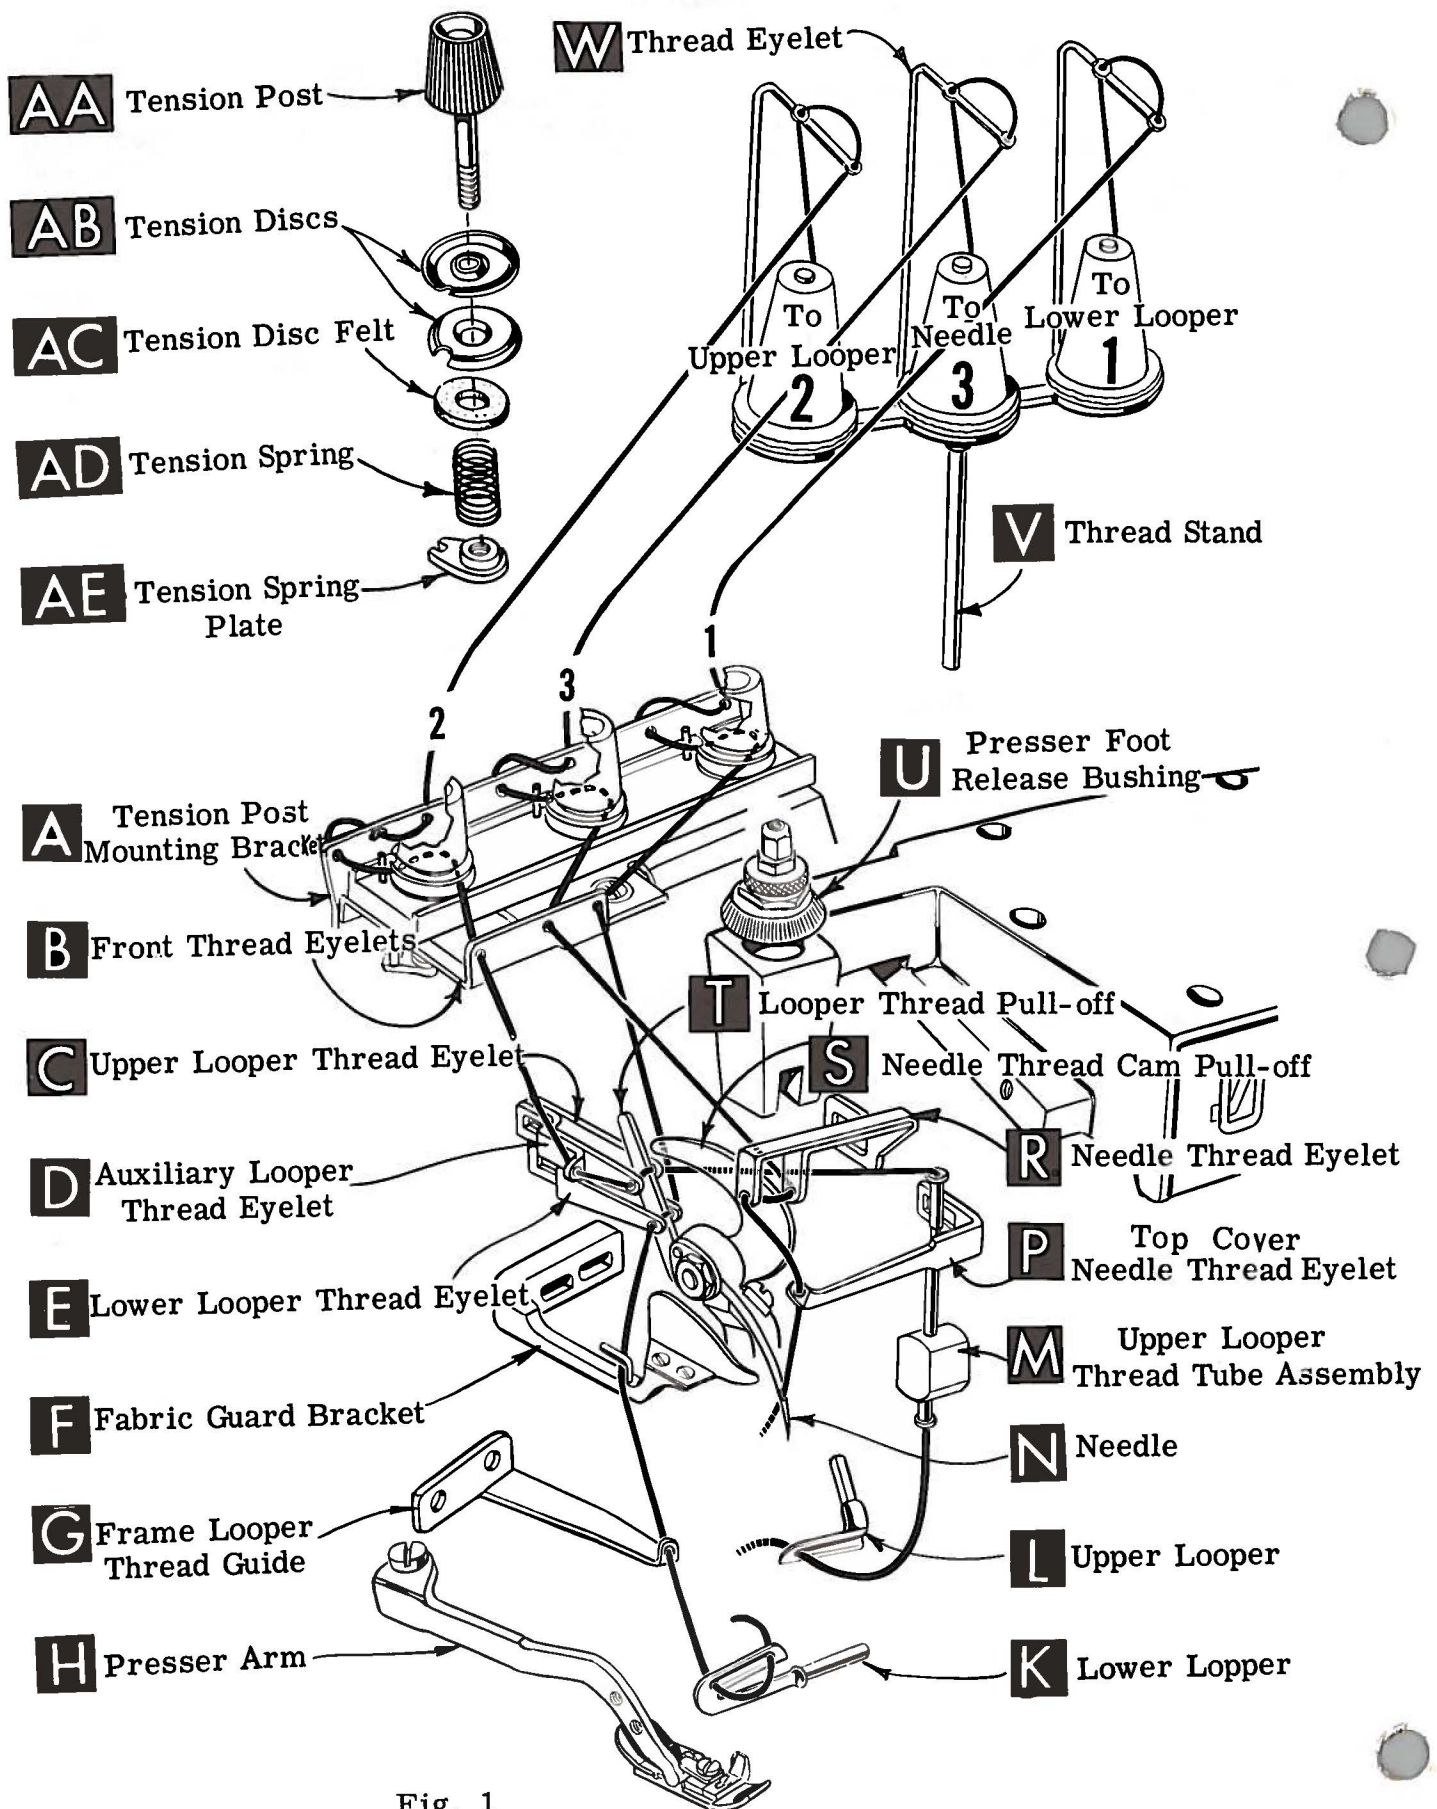
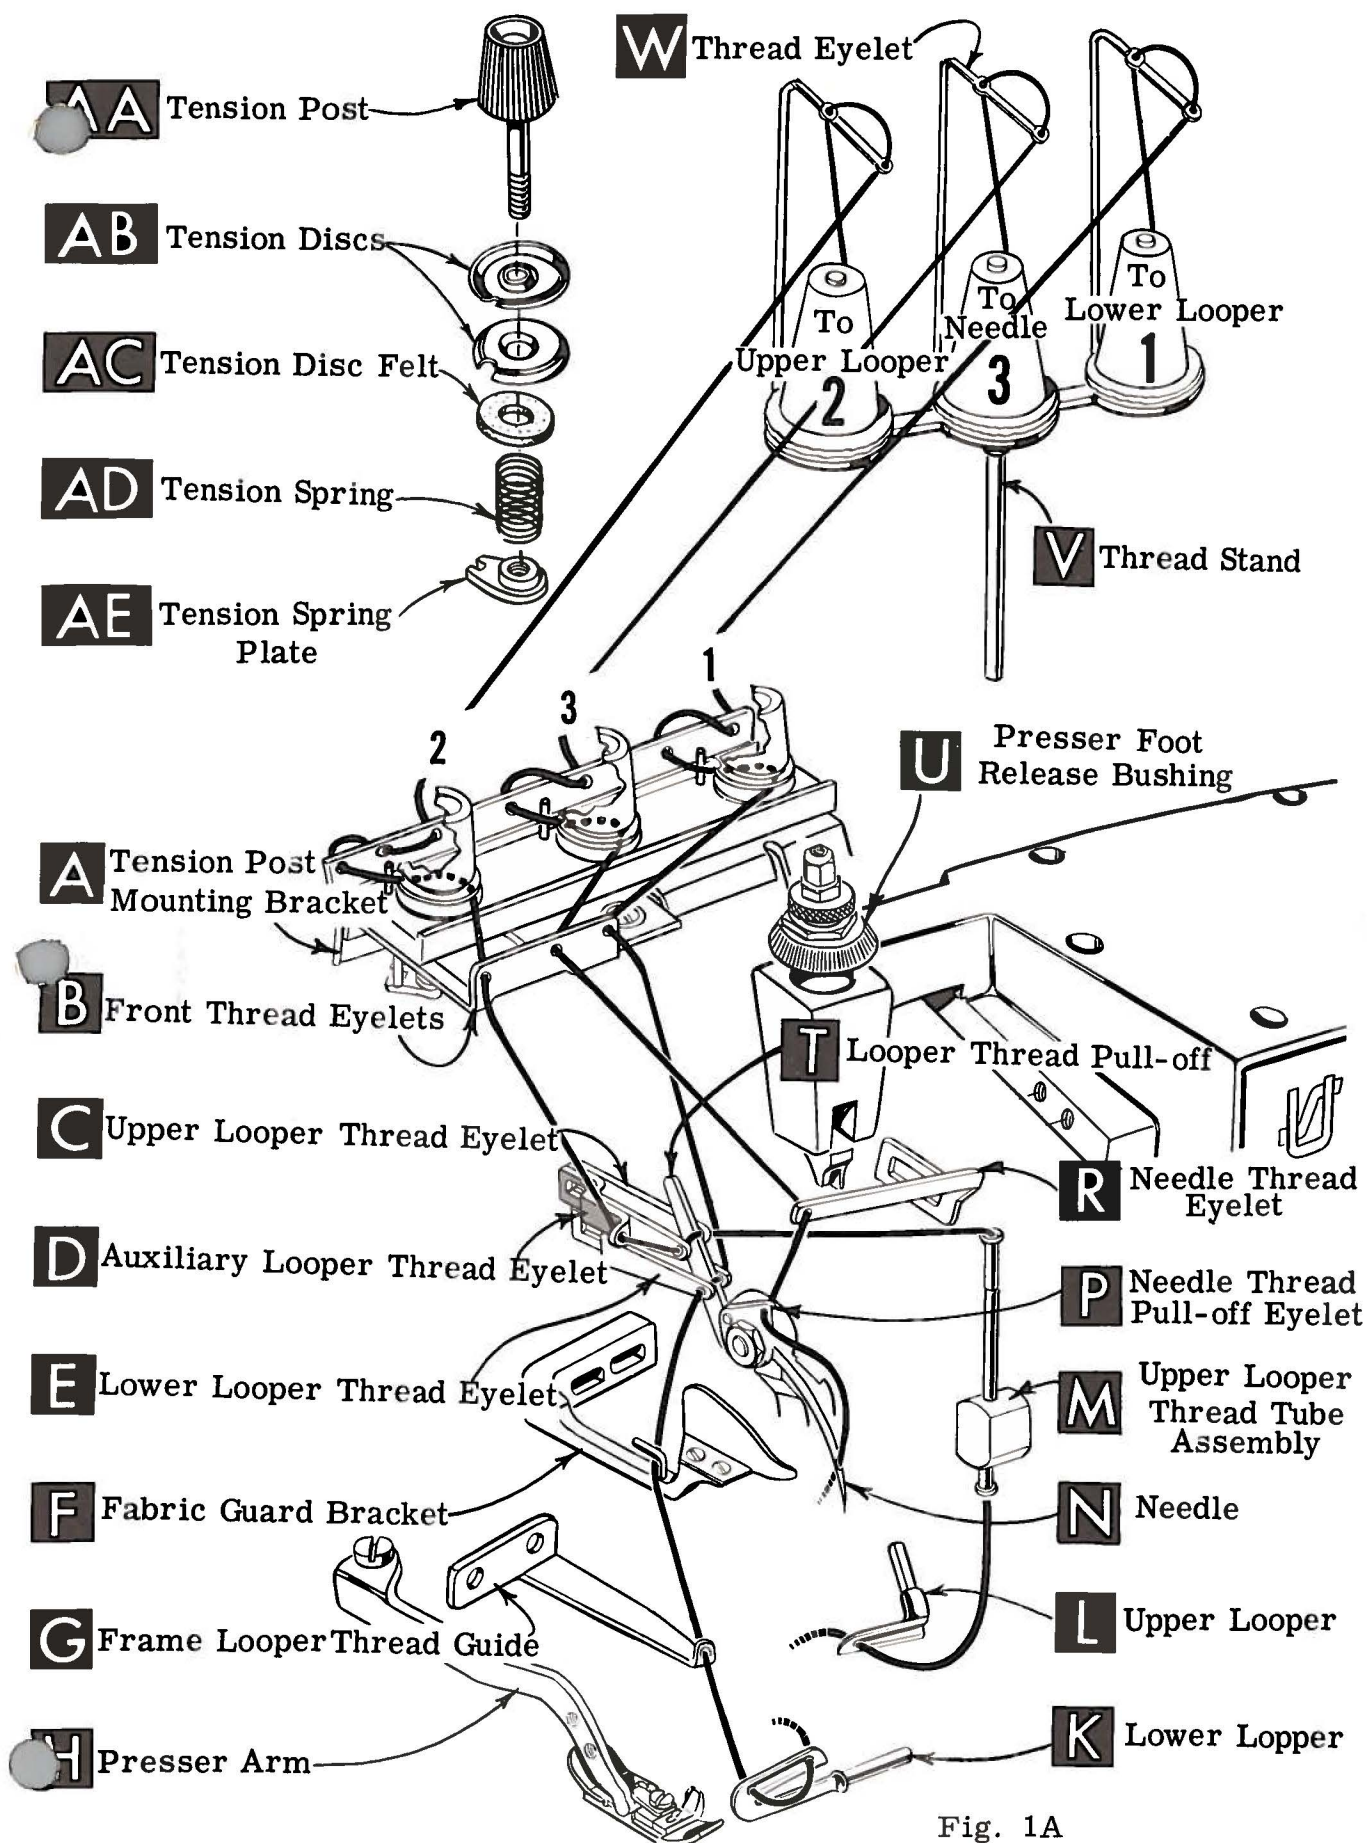

Fig. 1
Fig. 1A
Release pressure on presser foot by turning presser foot release bushing (T, Fig. 1 and 1A) and swing presser arm (G) out of position. Turn handwheel in operating direction until needle is at its lowest point of travel. Using hexagonal socket wrench No. 21388 AU, furnished with machine, loosen needle clamp nut about 1/4 turn. Again turn handwheel until needle is at high position; withdraw needle.
After thread comes from cone on thread stand (V, Fig. 1 and 1A), it is brought up through back thread eyelet, then down through front thread eyelet (W). Next it is threaded through each pair of holes in tension post mounting bracket (A), down through right hand hole (from back to front) and over mounting bracket through left hand hole (from back to front). Then thread continues between tension discs (AB), and on through front thread eyelets (B).
Only parts involved in threading are shown in threading diagram (Fig. 1 and 1A). Parts placed in their relative positions for clarity.
The threading of the upper and lower loopers are the same for both Fig. 1 and Fig. 1A, the only difference will be in threading the needle, which will be explained under paragraph "To Thread The Needle".
Thread lower looper thread through the right front thread eyelet (B) on the tension post mounting bracket (A). Then double end of thread and lead it through both eyes of lower looper thread eyelet (E, Fig. 1) from right to left. NOTE: Thread must pass in front of looper thread pull-off (T). Lead thread behind fabric guard bracket (F) and through hole of frame looper thread guide (G). Turn handwheel in operating direction until heel of lower looper (K) is all the way to the left; then thread through both eyes from left to right. Left eye of lower looper can be threaded easily if tweezers are in left hand.
Thread needle thread through middle front thread eyelet (B) on tension post mounting bracket (A). Turn handwheel in operating direction until needle (N, Fig. 1) is at its highest position. Insert needle thread from right to left, through both eyes of needle thread eyelet (R), under neck of top cover casting; then down through hole in top cover needle thread eyelet (P). Thread needle from front.
Thread needle thread through middle front thread eyelet (B) on tension post mounting bracket (A). Turn handwheel in operating direction until needle (N, Fig. 1A) is at its highest position. Insert needle thread from back to front of needle thread eyelet (R), under neck of top cover casting; then through needle thread pull-off eyelet (P) from right to left. Thread needle from front.
The amount of tension on needle and looper threads is regulated by the tension post (AA, Fig. 1 and 1A). Tension on threads should be only enough to secure proper stitch formation.